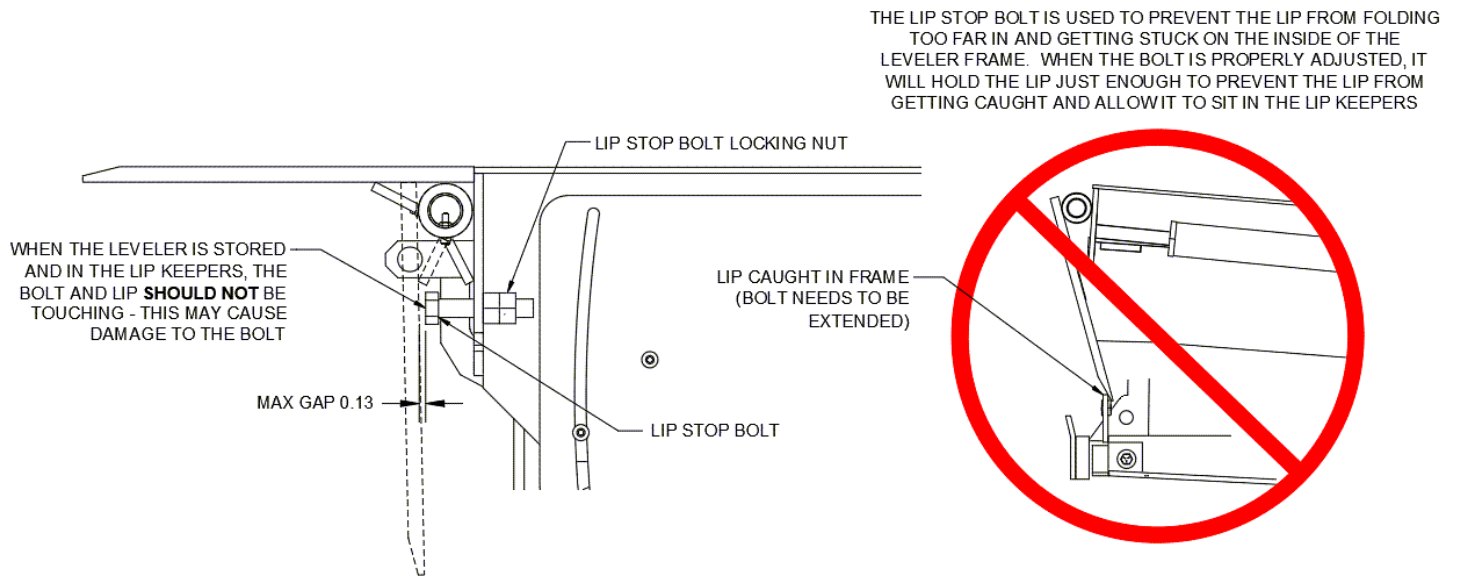

Figure 18: Lip Stop Bolt Adjustment
7. Inspect the lip stop bolt for proper placement (see Figure 18 for details). Replace if missing or damaged.
Lip stop bolt is not adjusted correctly	See Figure 18 for lip stop adjustment instructions